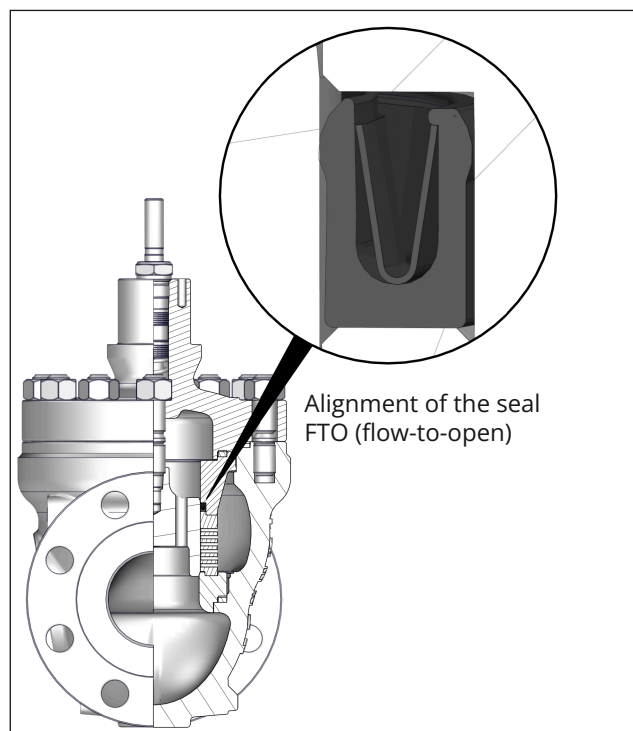

Fig. 36: Alignment of seal (45) on FTO cage
3. Insert a new spiral wound gasket (127) into the body (1) in the seat bridge area.
4. Place the seat (4) on the spiral wound gasket (127) in the body (1).
5. Insert the cage (424) into the body (1) and position it on the seat (4), while aligning the cage (424) within the valve body to ensure that the largest opening faces toward the valve outlet.
6. Insert the piston (5) together with the piston stem (36) upright through the cage (424) into the valve body (1) and position it on the seat (4).
7. Place a new seal (45) on the cylinder (463). Make sure the seal is properly aligned (see Fig. 36).
8. Place the cylinder (463) together with the seal (45) over the piston stem (36) on the cage (424).
9. Place a new spiral wound gasket (126) on the cylinder (463).
10. Insert a new spiral wound gasket (17) into the body (1).